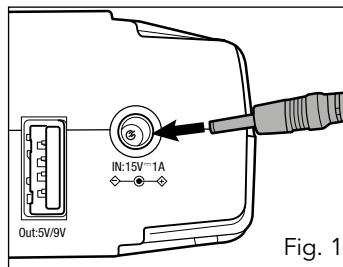

Fig. 1
1. Connect the supplied Charger (16) to the 15V d.c/1A Charging Jack (4) on the Power Bank (fig. 1).
2. Connect the Charger (16) into a mains power socket outlet and the Jump Starter Power Bank will charge. The time it takes to fully recharge an empty battery is approximately 5 hours.